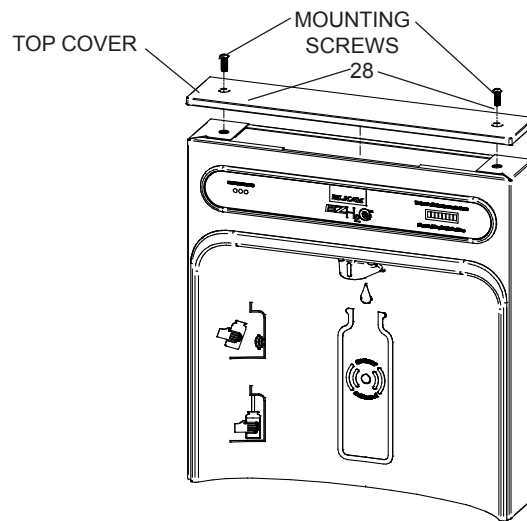

Fig. 5
- 1) **Remove two (2) mounting screws** with 5/32" Allen wrench holding top cover to Bottle Filler (See Fig. 5). Remove top cover. Note do not discard mounting screws, they will be needed to reinstall top cover.
- 11) **Once Bottle Filler is installed on wall plate tabs**, water line, wire(s) and power cord are installed properly, push top of Bottle Filler toward wall and line up top cover two (2) holes.
- 12) **Reinstall Top Cover on Bottle Filler** (See Fig. 5) with two mounting screws from step 1 above. Caution, do not over tighten screws.